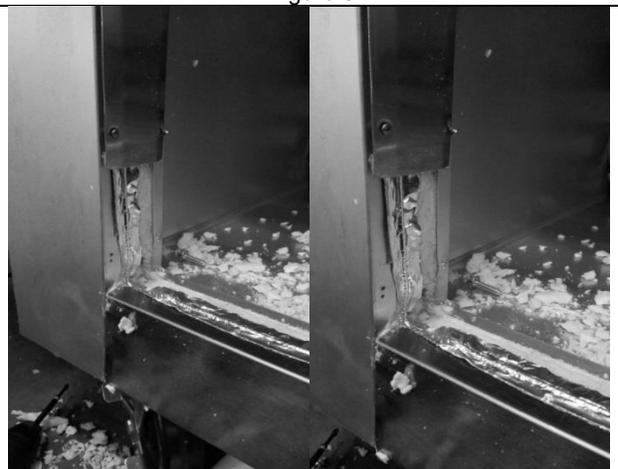

Figure 10
- Stick new foil heater wires around the perimeter of the unit to the right of the breaker strip screws closest to the outer skin of the unit as seen in Figure 10. Dig some foam out of each corner so the heater forms to the corner, to avoid pinching when reinstalling breaker strips.